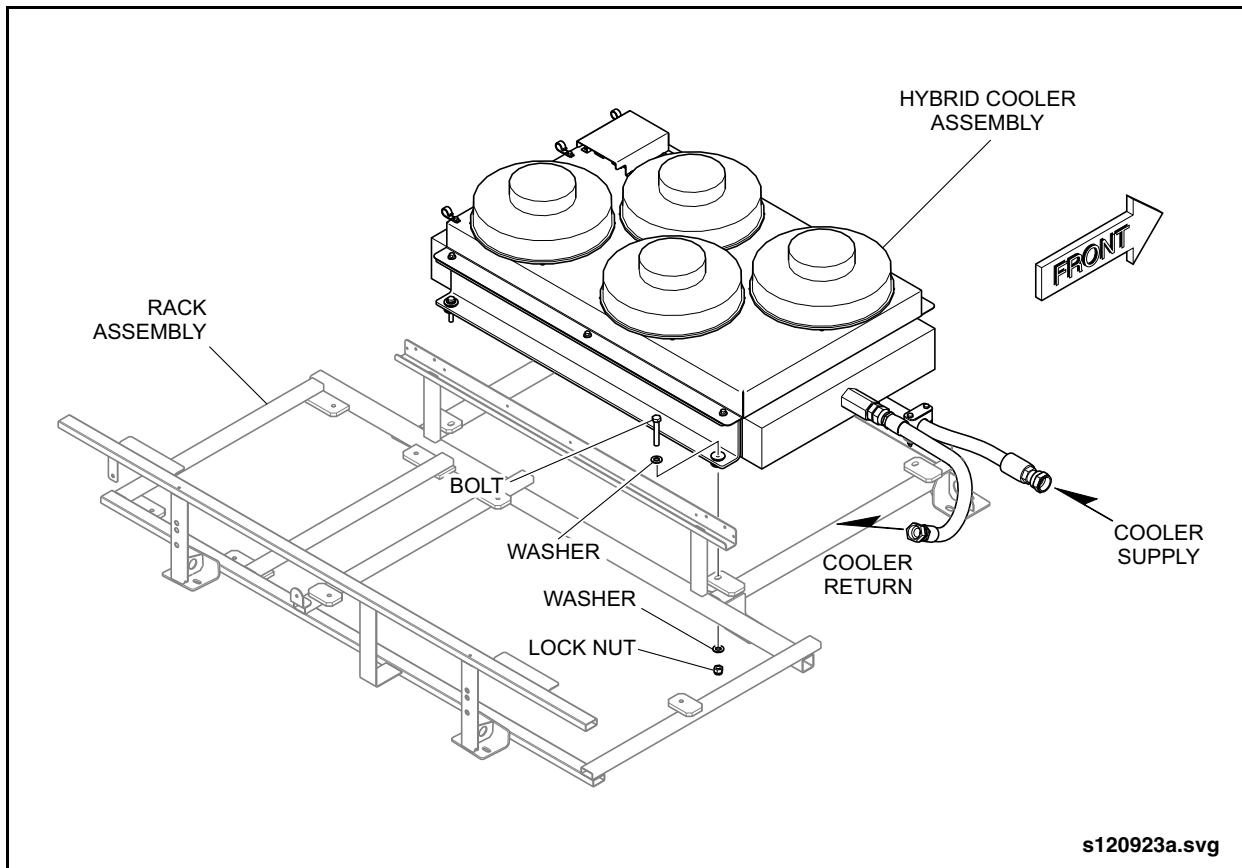

Fig. 6-4: Hybrid Oil Cooler Installation
2. Disconnect the main 16-pin connector from the cooling fan harness. See "Fig. 6-4: Hybrid Oil Cooler Installation" on page 19.